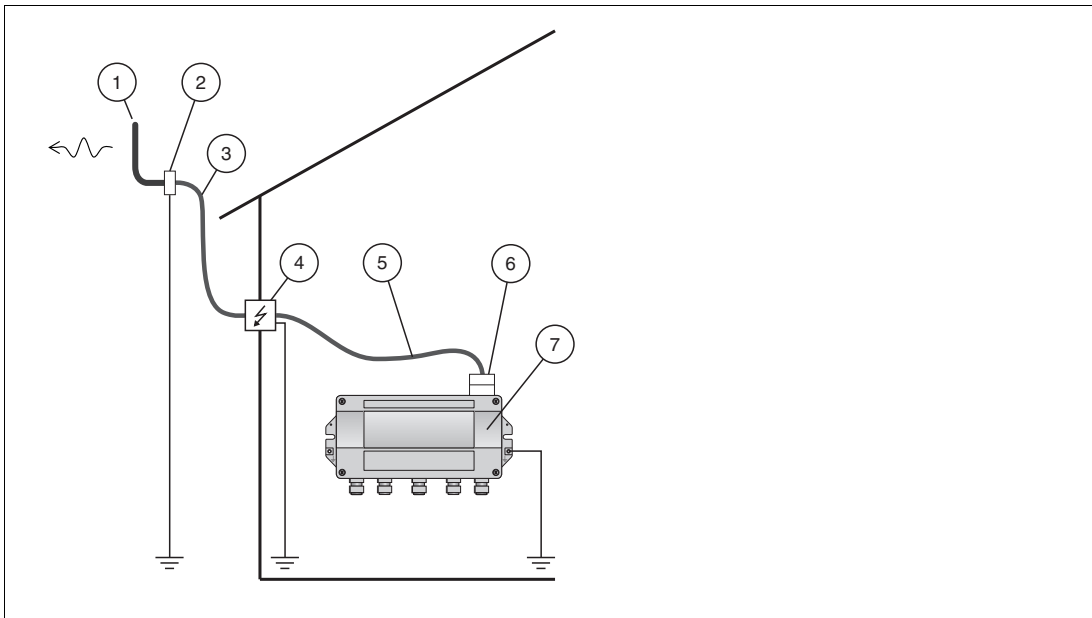

Figure 3.6 Installation diagram
2. Install the components according to the installation diagram. → see Figure 3.6 on page 22